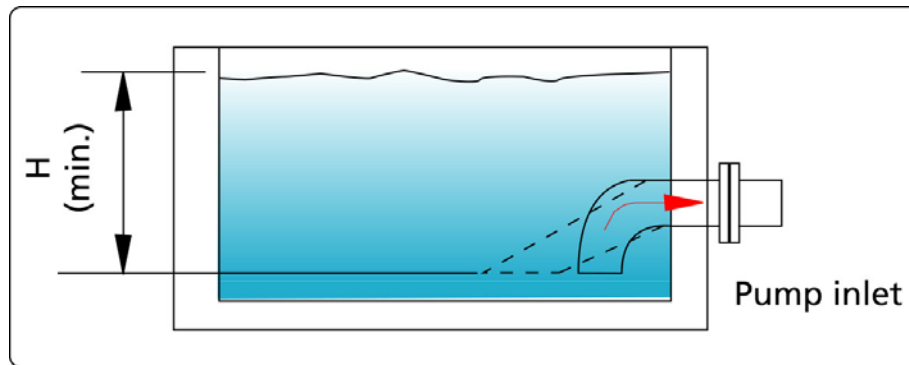

Figure 6 Using an elbow at the pump inlet pipe end.
14. Use a 90° or 45° elbow at the pump's inlet pipe end (see Figure 6). This will allow almost complete drainage of the tank and is especially useful in the case of fluids that can not be readily dumped to the sewers. It also provides additional submergence reducing the risk of vortex formation.